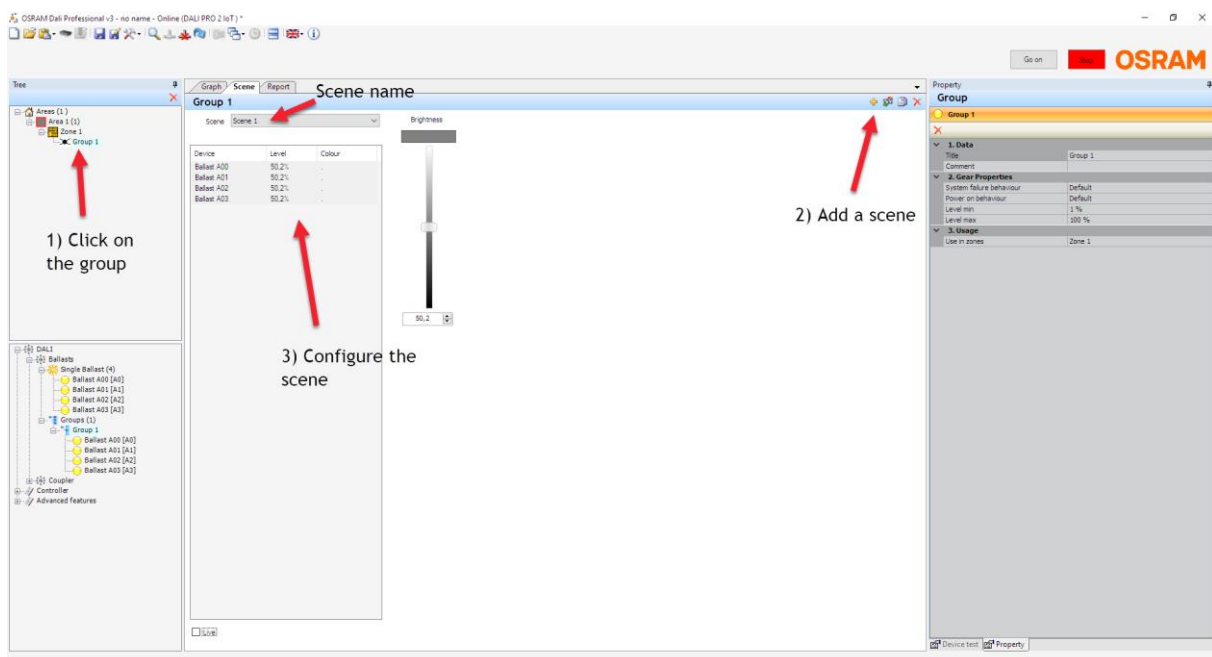

Figure 13
1. Configure a scene (see Figure 13). Take note of the scene name, it will be used to recall the scene.